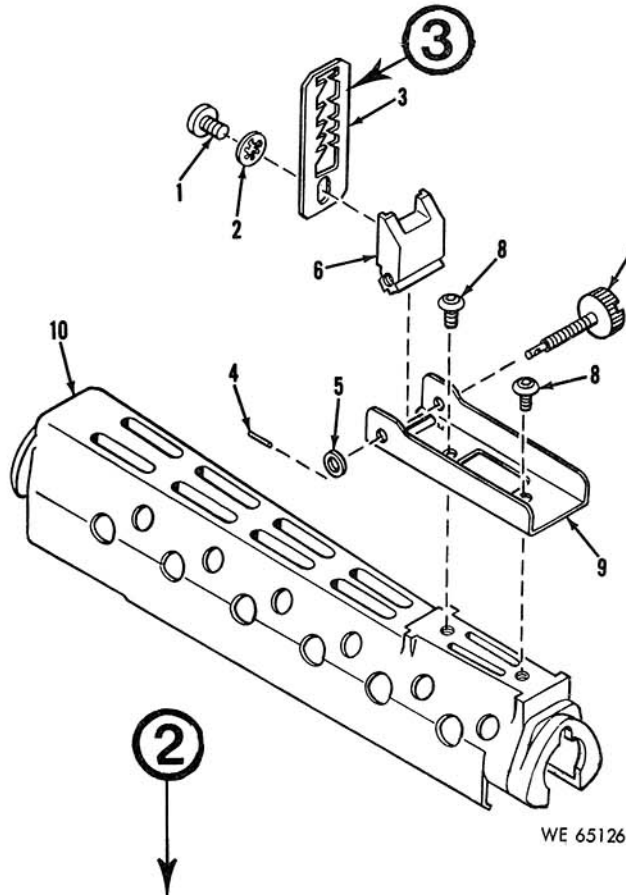

Figure C-3. Handguard and sight assembly group.
- STEP ②. Get TM 9-1010-221-24 and find the illustration that includes the part you are ordering. (Example: Figure C-3.)
- STEP ③. Look at the illustration and find the part you need and its corresponding item number. (In this case, 3)
- STEP ④. Turn to the repair parts list in the TM (for the M203 it is page 38); look down column 10A and find the illustration number. (In this case, C-3)
- STEP ⑤. Look down column 10B and find the item number of the part. (In this case, 3)
- STEP ⑥. Go to column 1 and be sure there is an "O" or "C" next to the part you want to order. This is the maintenance code. "C" means crew or operator level maintenance; "O" means Organizational level maintenance. Whenever there is an "O" or "C", you are authorized to order the part.